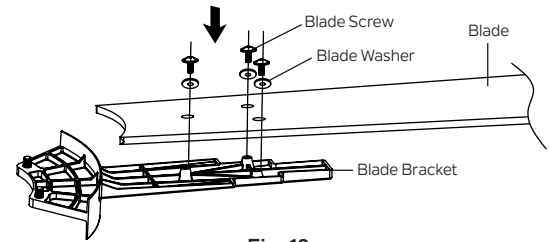

Fig. 18
Step 1. Attach blade to blade bracket using three blade screws and three washers found in the hardware pack as shown. Do not tighten blade screws until each screw has been started. Then, tighten each screw starting with the center screw. (Fig. 18)